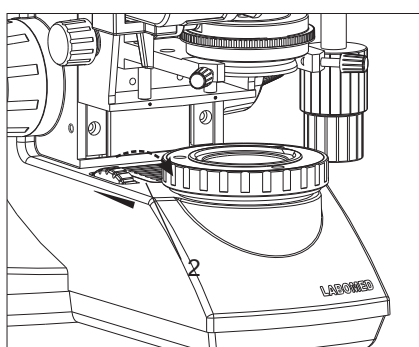

Fig. 13
2. Rotating the light intensity adjustment knob (Fig. 13) in the direction of the arrow increases brightness and rotating knob in the opposite direction decreases brightness. The intensity bar next to the knob indicates the direction of intensity level.